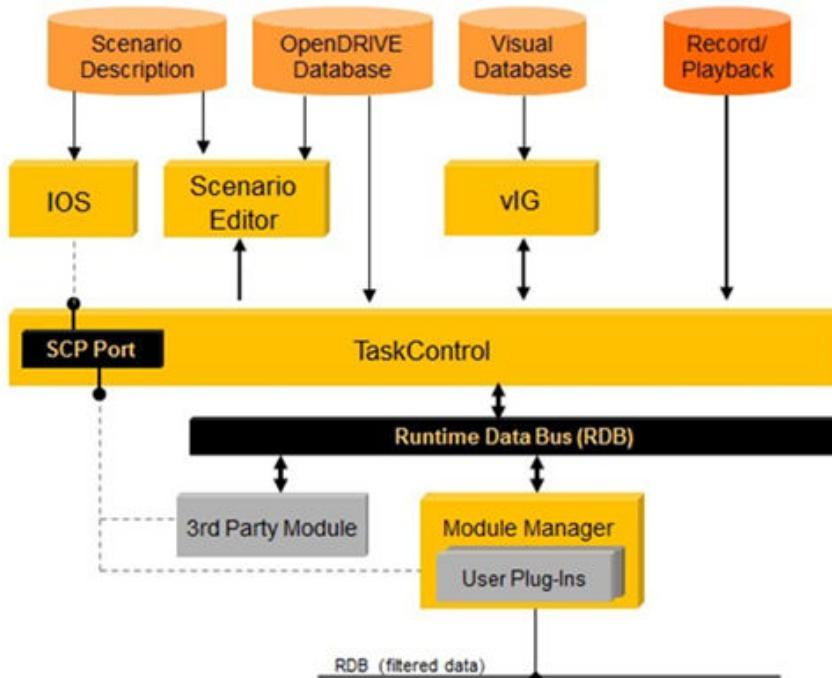

Figure 32. Components during Replay
- **Replay:** When a simulation is replayed, the various states recorded are played back into the system. Figure 32 illustrates which components are provided with simulation data during the replay phase: